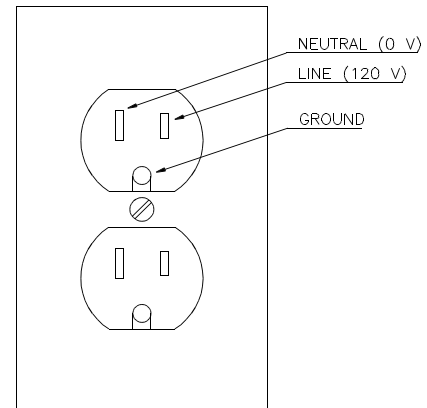

Figure 2-3. Power Receptacle
1. For protection of operating personnel, Faxitron X-Ray LLC requires that instrument panel and cabinet be grounded. The instrument is equipped with a three-conductor AC power cable that, when connected to an appropriate receptacle, grounds the instrument through the offset pin. Further, check to make certain the wall outlet is properly wired. See Figure 2-3.